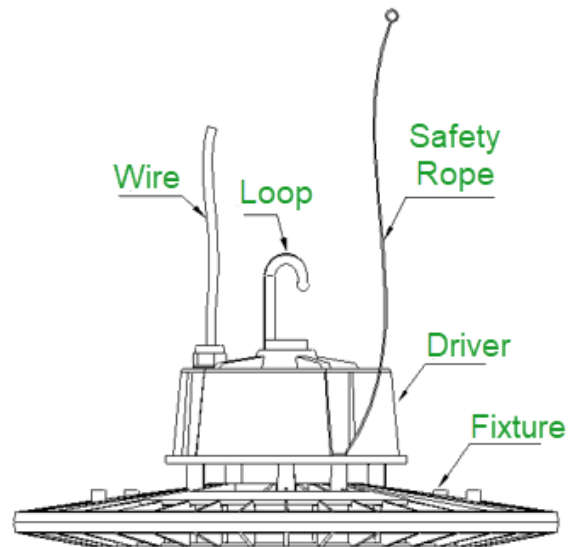

Fig. 2
2. **HOOK MOUNTING:** Follow mounting directions as in Fig. 2